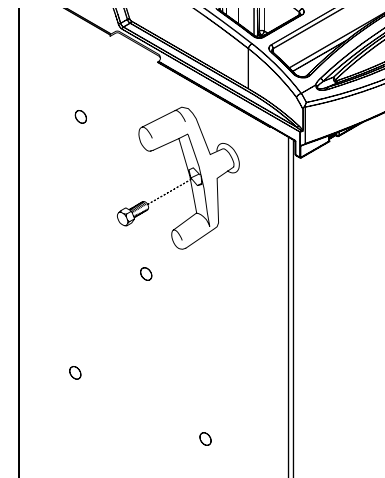

Figure 6
b. Locate hand crank handle and associated screw-nut and mount hand crank to the left side of the mounting shaft as shown in Figure 6. NOTE: The crank screw uses a left hand thread. Do not over-tighten. Make sure threads and mating surface is clean prior to assembly. Refer to Figure 6 for detail.